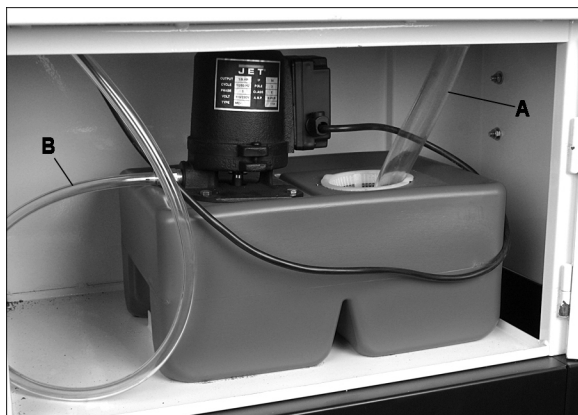

Figure 10
1. Remove coolant return hose (A, Figure 10) from filter cup, and slide tank out of saw base.
4. The coolant supply hose (B, Figure 10) should connect to the two valves on the blade guide assemblies.